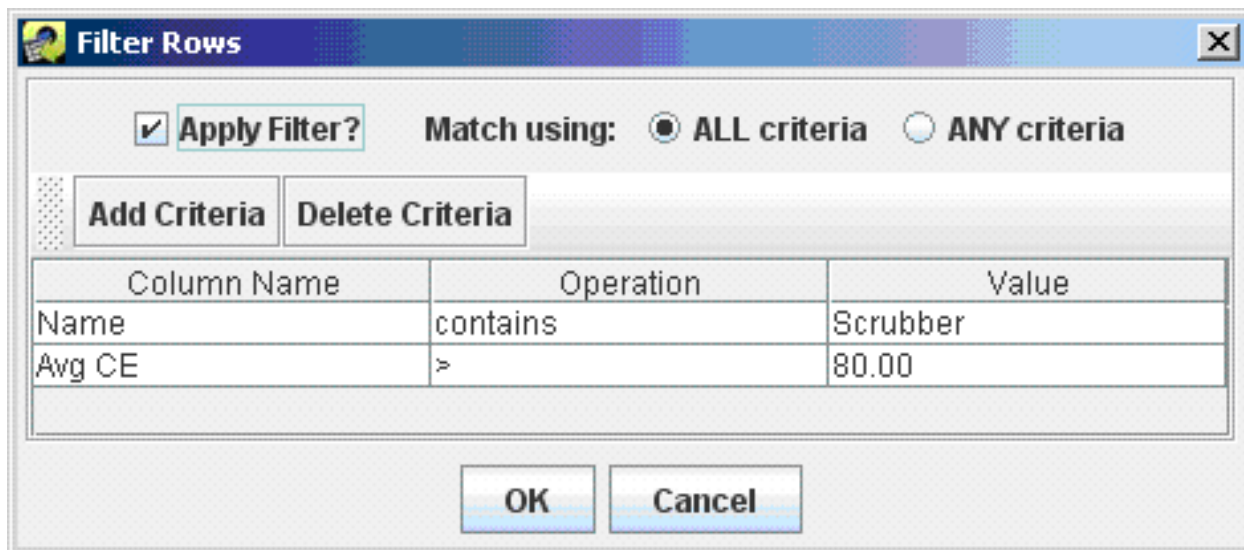
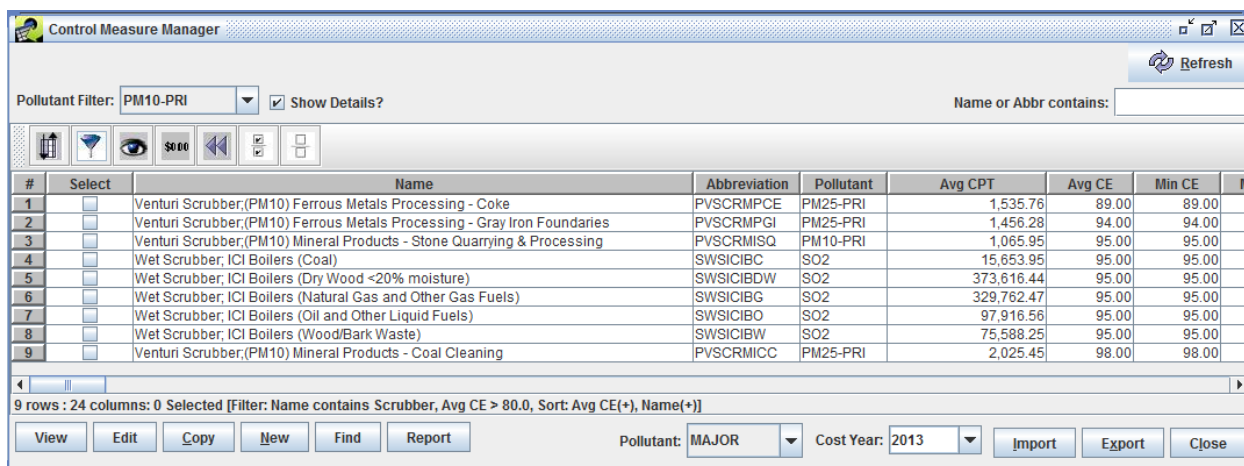

Figure 3.5: Filter Rows Dialog
Figure 3.6: Control Measure Manager with Filter Applied
Step 1-10: Apply Filters to Control Measure Table. To use a filter to limit the measures shown, click the button on the toolbar that looks like a filter . When you do this the “Filter Rows” dialog appears (Figure 3.5).
Click OK to close the **Filter Rows** dialog and to apply the selected filter. Figure 3.6 shows the table that results from the selections shown in Figure 3.5. Notice that the currently applied filter is reflected in the line under the horizontal scrollbar of the table.